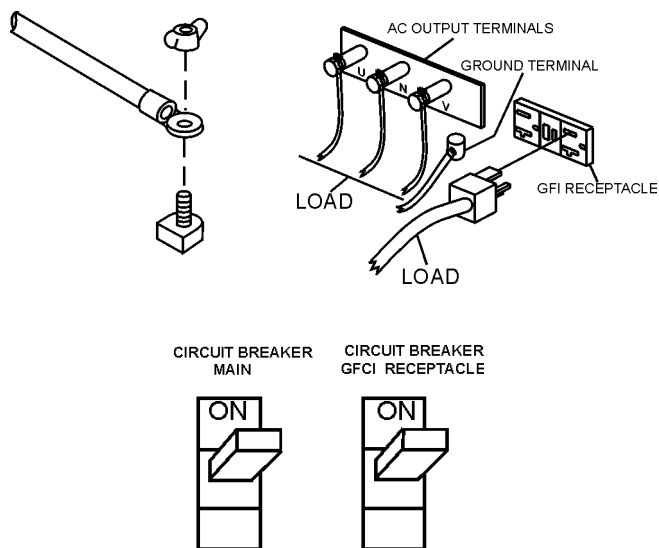

Figure 17. Terminal Connection and Circuit Breakers
4. Connect load and welding apparatus to output terminals (Figure 17). Check the circuit breakers are in the 'OFF' position.